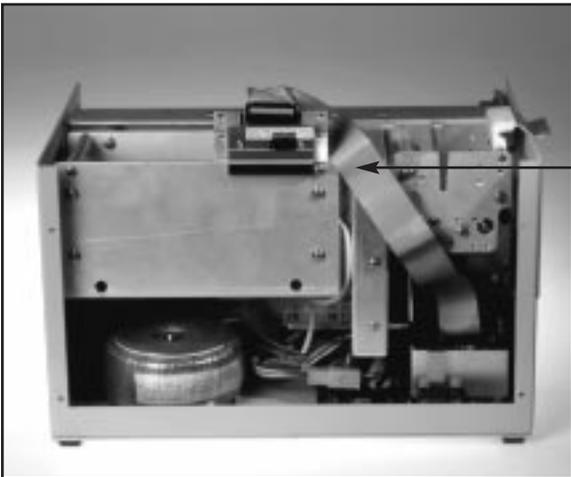

Figure 9A - Print Head removal
(Please refer to **figures 9a - c**)
3. Lift up on the cam lock assembly (located above the head mounting block) to remove pressure from the thermal head. (see **figure 9a**)